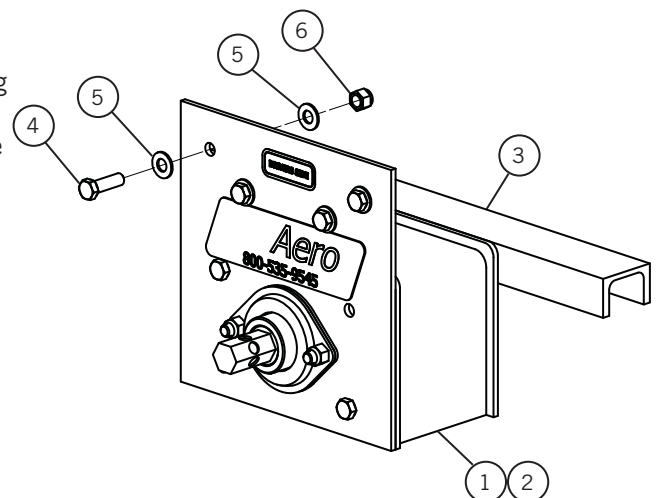

Figure 7
- 4) Position the driver's side spring assembly (1) to the point marked on the driver's side (B). Clamp the spring assembly into position centering the mounting plate **Figure 7**. B. The top of the mounting plate should be as high as possible from the bottom of the box.
- 5) **See Figure 7.** Drill four 13/32" holes using the mounting plate as a guide.
- 6) Bolt the spring assembly to the box or rail with 3/8 - 16 x 1 hex bolts (3), 3/8 flat washers (4), and 3/8-16 nylon hex nut (5).